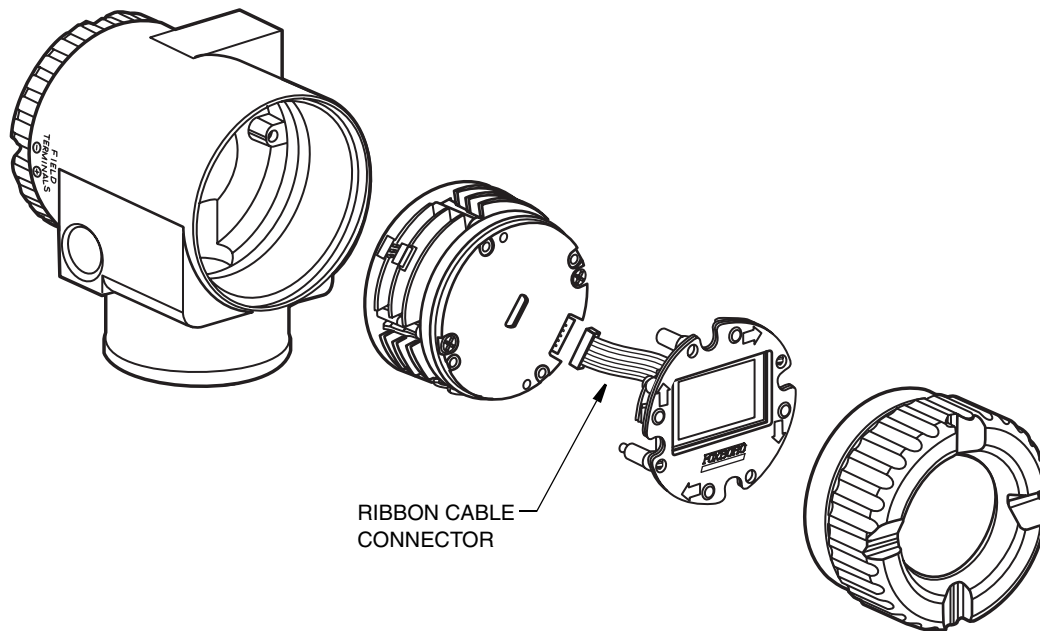

Figure 54. Display Connection
6. If the electronic module was equipped with a display, reinstall the display. Carefully fold the ribbon cable in the space between display and the electronic module so that it is not pinched. The display molding should rest firmly against the module molding before tightening the screws. See Figure 54.